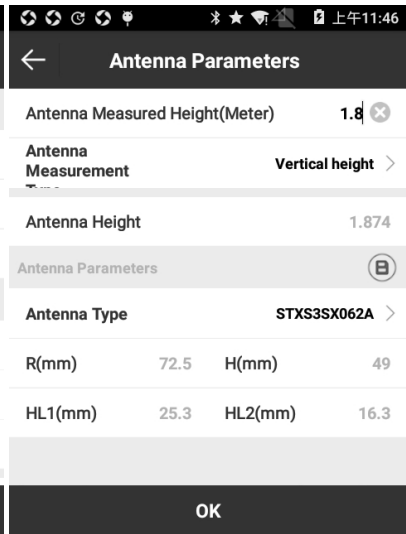
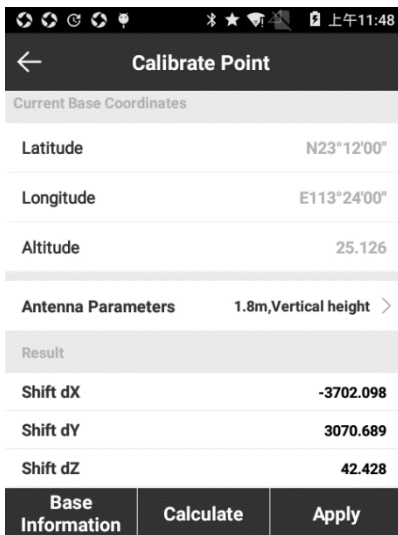
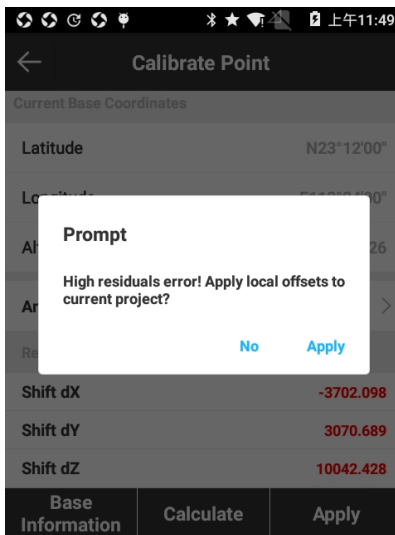
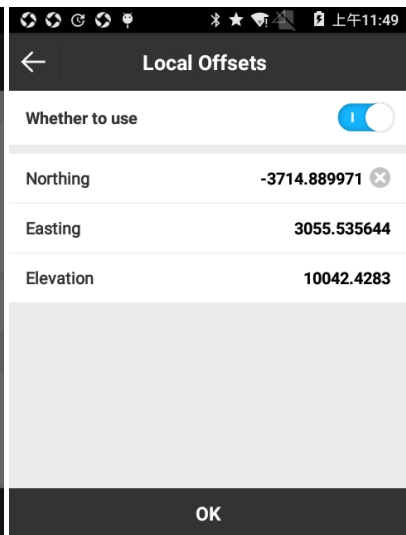

Figure 3.4-3
Figure 3.4-4
Figure 3.4-5
Figure 3.4-6
(2) Input the known points, i.e. coordinate before base change. There are two ways to input coordinate: one is to select existing base coordinate from Points Library, the other one is to directly input base coordinate x, y, h before base change. Press [Antenna Parameters] to set antenna parameters as shown in Figure 3.4-3.
(3) Input Antenna Measured Height, set Antenna Measurement Type (Vertical height, Height to phase center, Slant height, Slant height to altimetry), and Antenna Type is automatically selected according to current connected receiver, and press [OK] to return to Base Point Calibration interface.
(4) Press [Calculate] to check calculation result as shown in Figure 3.4-4. Press [Apply] and it would directly apply the calculation result. If the calculation result is in red font, it means translation parameter overrange (longitude difference over 1 degree or latitude difference over 1 degree or height difference over 1000), in which press [Apply] and there would pop up a prompt as shown in Figure 3.4-5 saying “High residuals error! Apply local offsets to current project?”. If press [Apply] it would jump to Local Offsets interface as shown in Figure 3.4-6 to display the result. Press return key upper right and pops up prompt to ask whether to apply calculation result, and after selection it returns to Base Point Calibration interface.